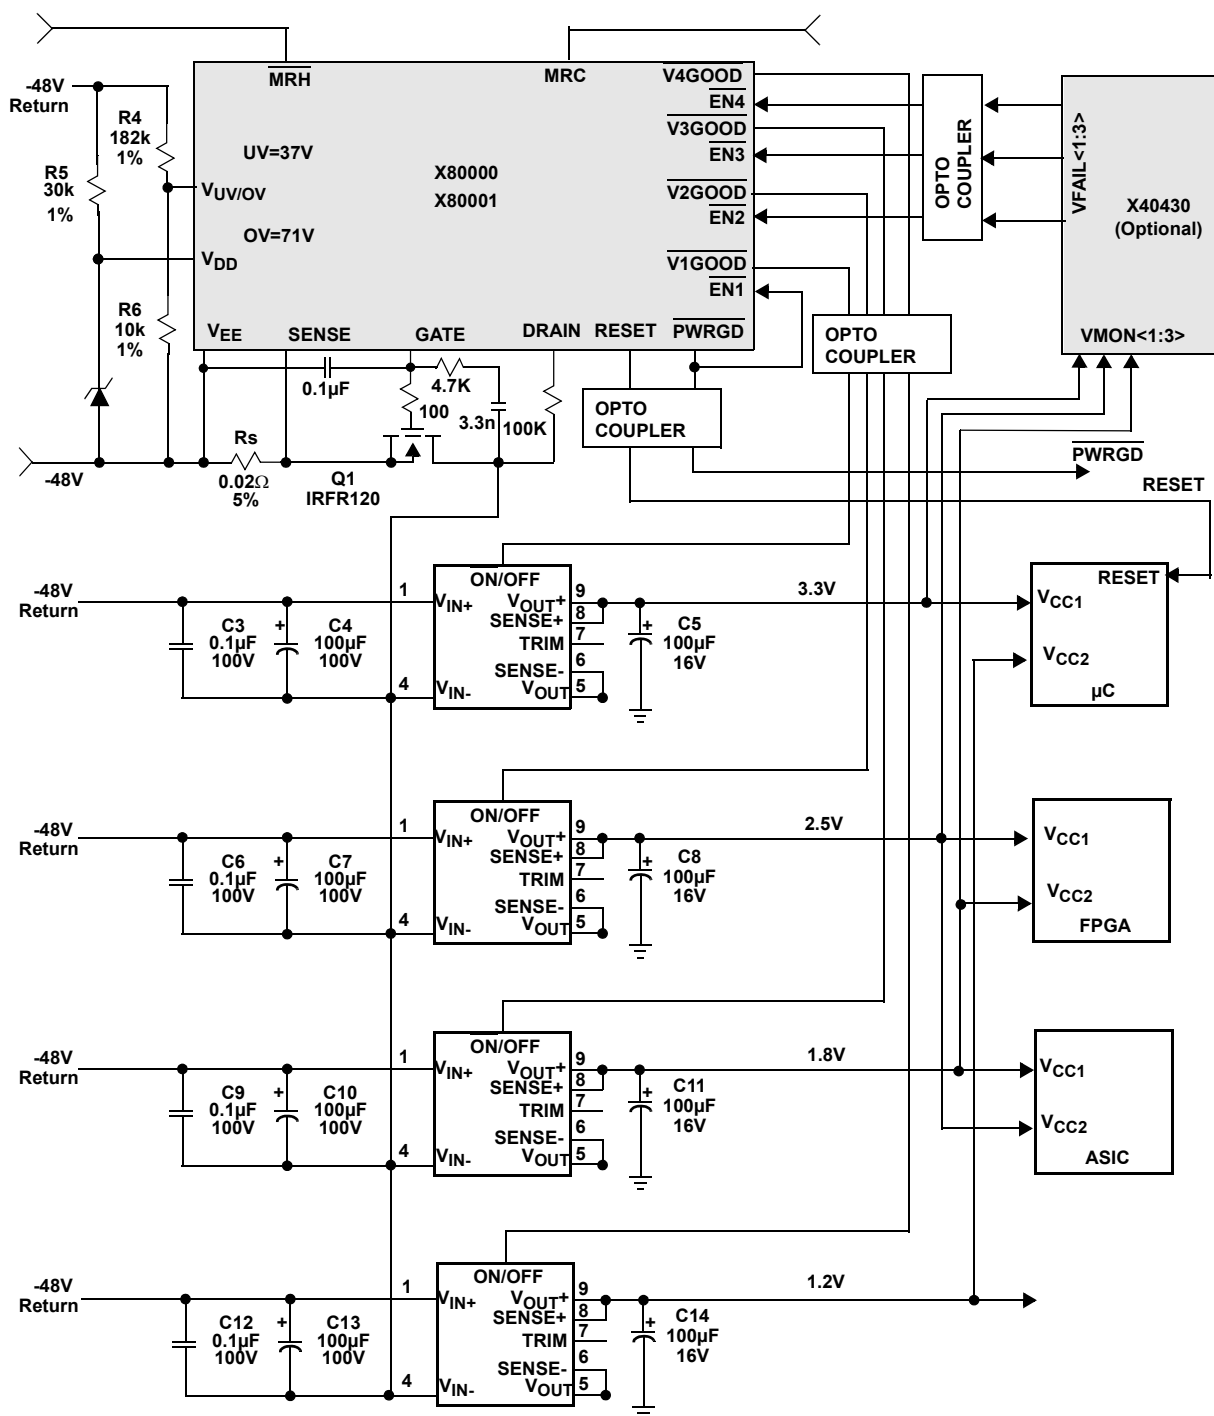
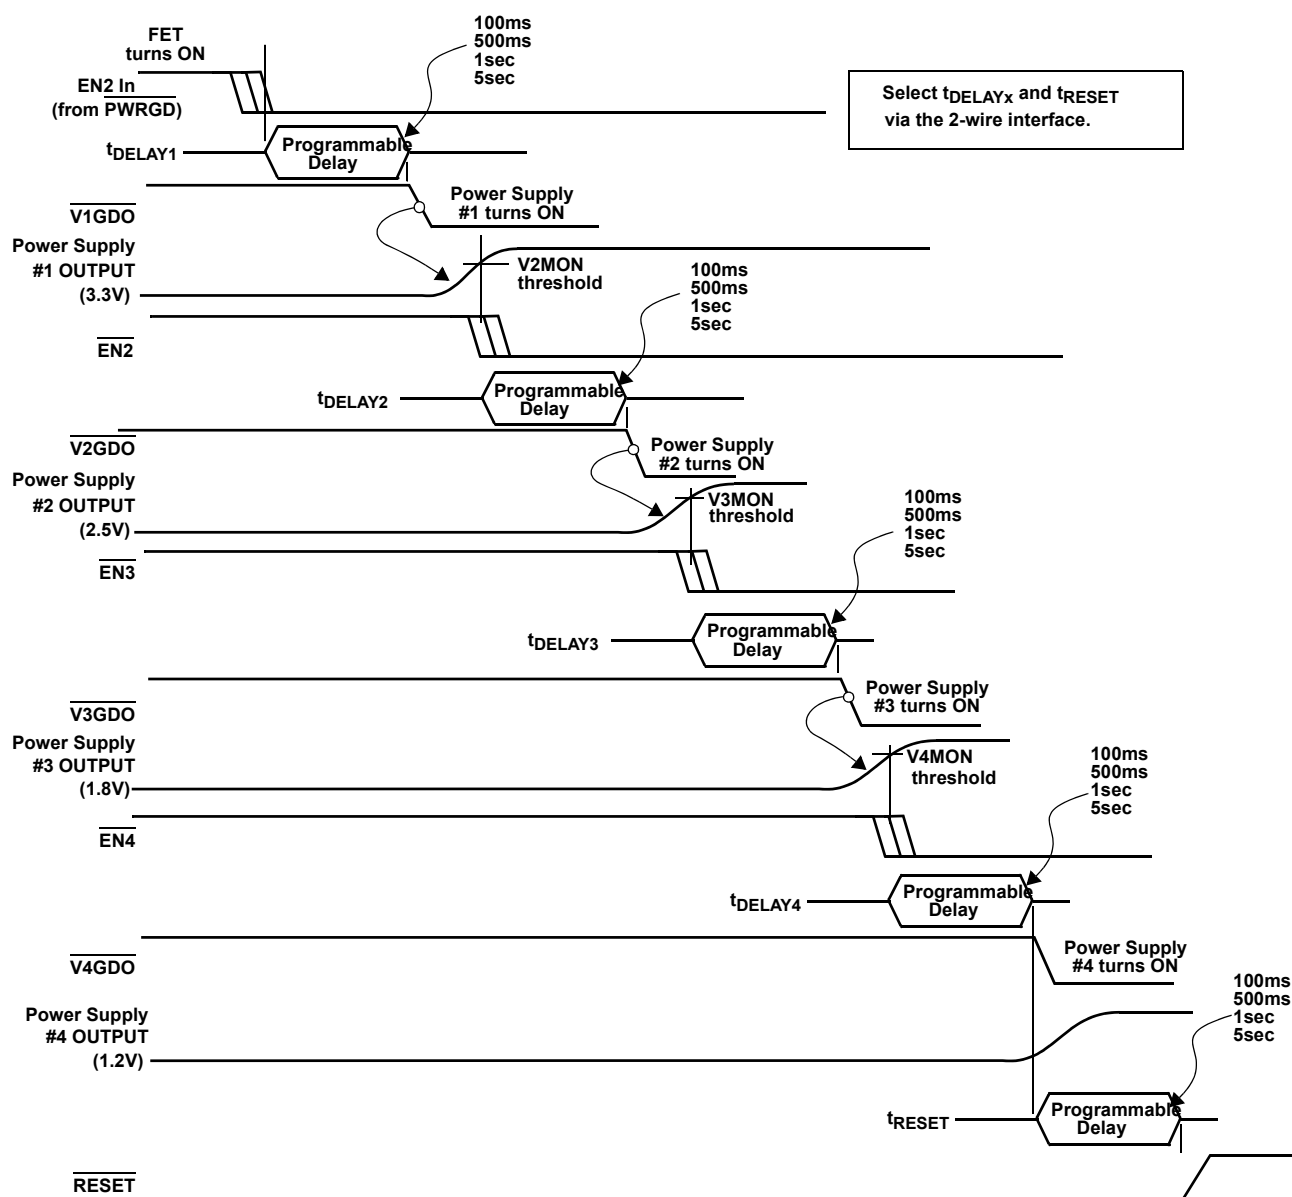

FIGURE 35. TYPICAL APPLICATION OF HOTSWAP AND DC-DC RELAY SEQUENCING
FIGURE 36. RELAY SEQUENCING OF DC-DC SUPPLIES (TIMING)
2. Power Up of DC-DC Supplies Via Relay Sequencing Using Power Good and Voltage Enables (see Figure 35 and Figure 36).